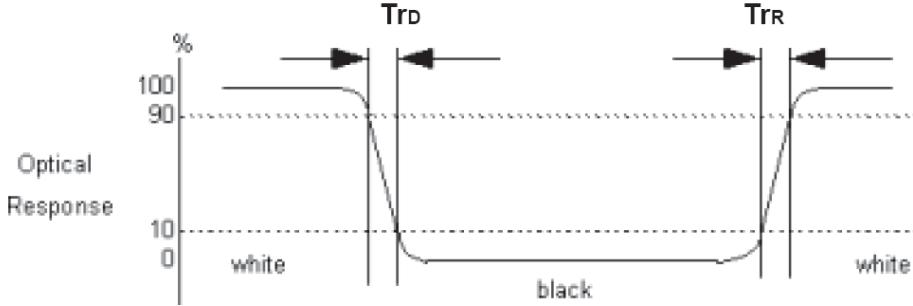

Fig.4-3 Response time
4. Response time is the time required for the display to transition from white(L255) to black(L0) (Decay Time,  $Tr_D = Tf$ ) and from black(L0) to white(L255) (Rise Time,  $Tr_R = Tr$ ). For additional information see Fig. 4-3.